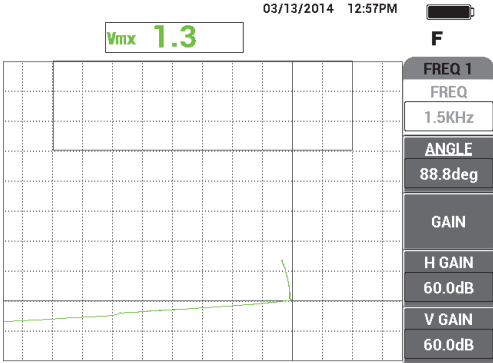

Figure 5-93 The scan of the tapered area
- 7. Press the ERASE key (), then slowly scan the tapered area, and then, after completing the scan, press the FREEZE key (). An example of the resulting scan is shown in Figure 5-93 on page 193.